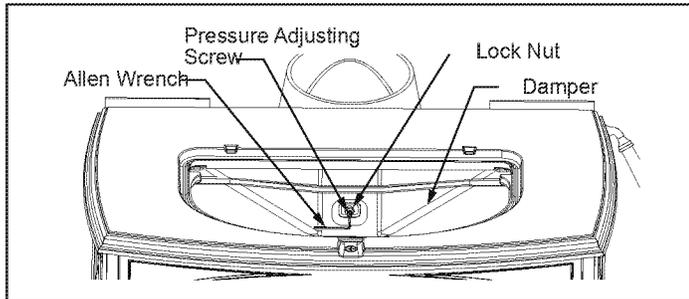

Figure 2.12 - Adjust the damper with the Allen wrench.
1. Remove the griddle. Loosen the lock nut at the center of the damper. (Figure 2.12)